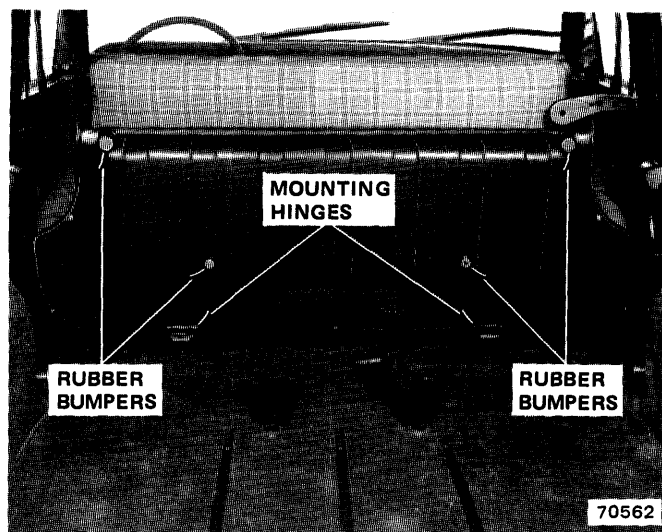

Fig. 19-7 Rear Seat Assembly
- (1) Release latch at lower right side of seat back. Raise complete seat assembly forward (fig. 19-7).
- (2) Lift complete seat assembly from two floor mounting hinges.
- (3) Remove seat assembly from vehicle.